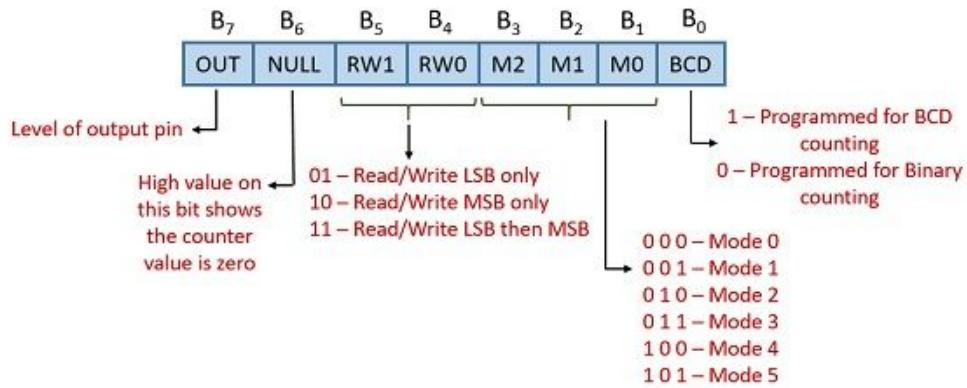

Fig. 16.4 Format of the status register of each counter
- Figure 16.4 shows the format of the status register of each counter: